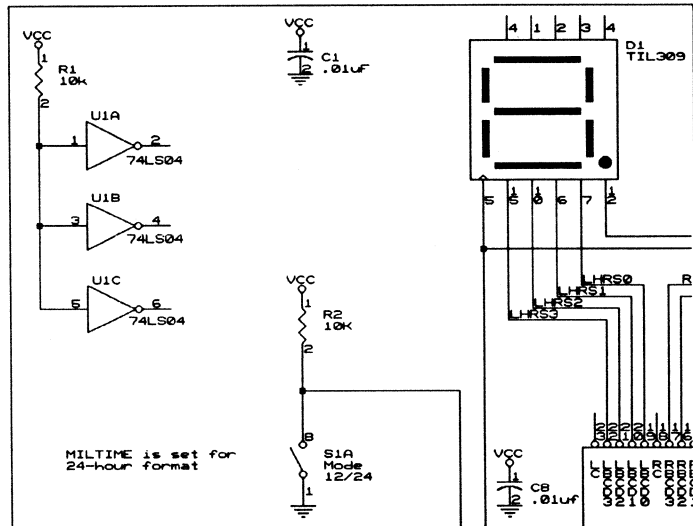

Figure 3-9. A partial view of the annotated schematic.
6. Select **Draft**, then select **Execute**. The reference designators are annotated for TUTOR386.SCH, as shown in figure 3-9.